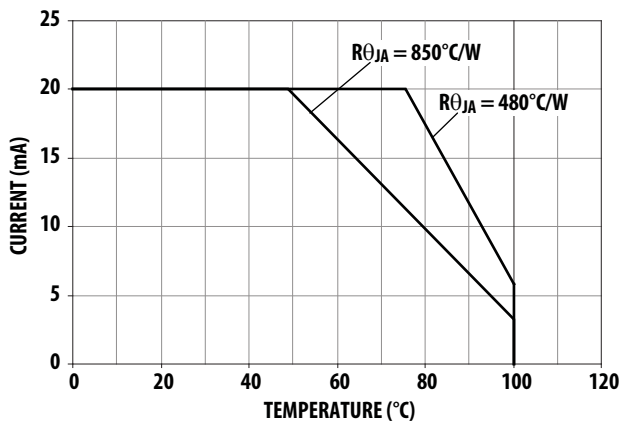

Figure 6. Maximum Forward Current Vs. Ambient Temperature. Derate Based on $T_{JMAX} = 110^{\circ}C$, $R\theta_{JA} = 850^{\circ}C/W$, $480^{\circ}C/W$.
1. Derate Linearly as shown in Figure 6.